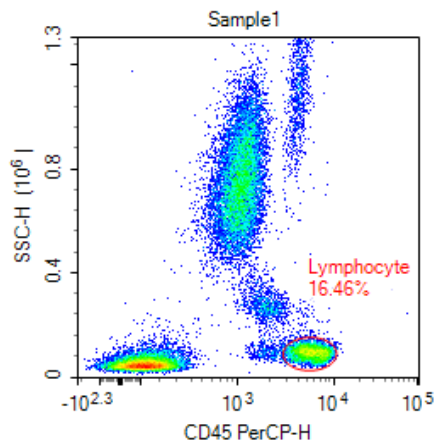

Figure 16. Create Density Plot and Draw Lymphocyte Gate
- 8 In the Workspace, create a density plot by clicking the **Density Plot** button  from the toolbar. Change the x-axis parameter to **CD45 PerCP-H** and the y-axis parameter to **SSC-H** (Figure 16). Use the **Zoom In** tool , to display the appropriate coordinate range for the sample. Draw an **Elliptical Gate** to gate the lymphocyte population on the plot and rename the gate as **Lymphocyte**.